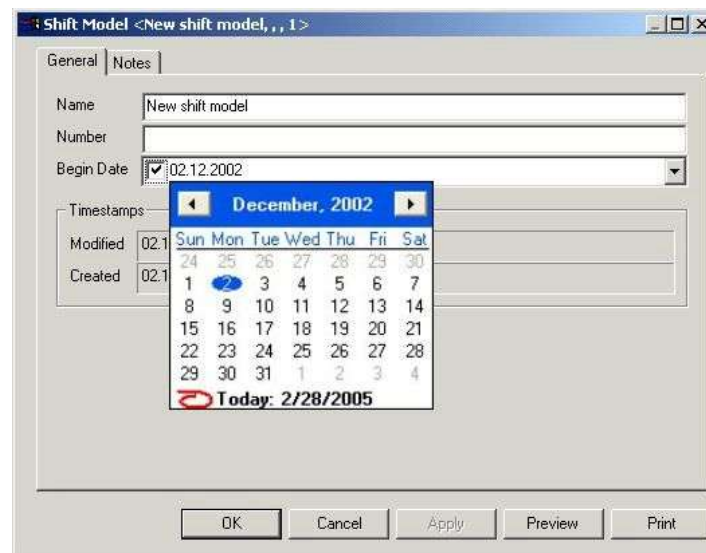

Figure 31: Enter Base Data for the Shift Model
- **Properties** dialog in which the shift model is defined and the start date are specified. *Please refer to the Figure 31.*